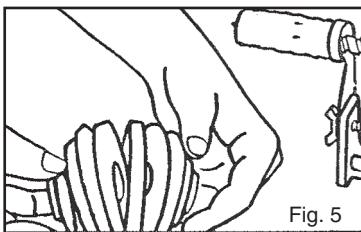
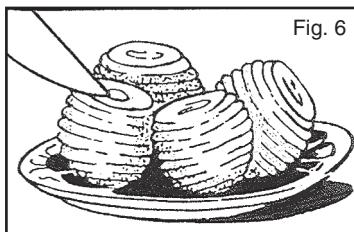

Fig. 5
Fig. 6
6. Turn the handle so that the shaft moves inwards peeling and coring the apple leaving a spiral peel. Remove the spiral peel from the core. Fig. 5. To make slices of the spiral, cut through one side of the spiral according to fig. 6.